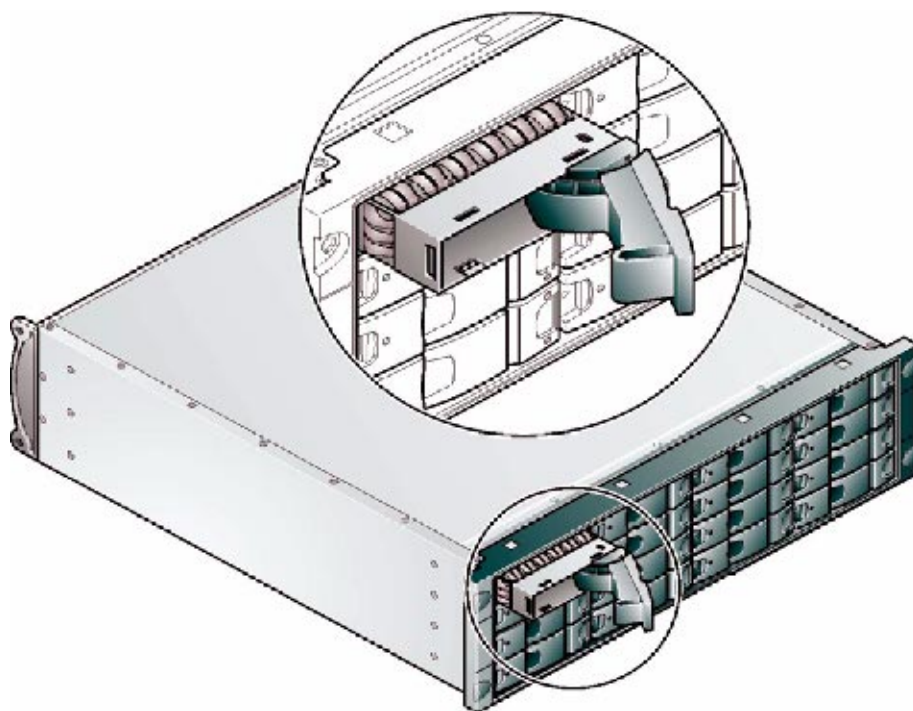

Figure 2-16 Installing a SATA Drive Carrier Module (2)
- 3 Slide the carrier, gently, all the way into the enclosure until it is stopped by the camming lever on the right of the carrier (Figure 2-16)